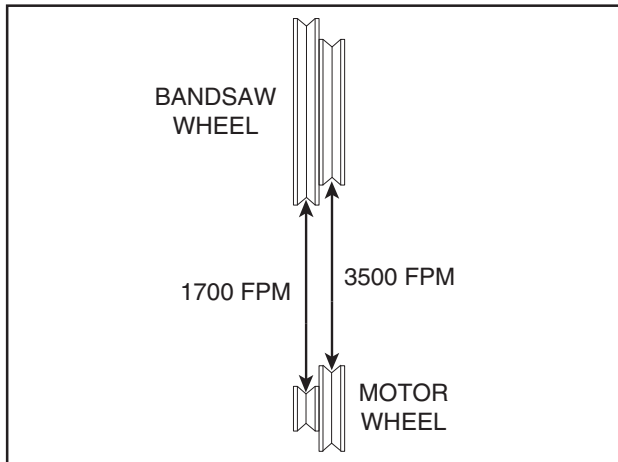

Figure 67. V-belt speeds.
3. Refer to **Figure 67** to locate the correct V-belt position for the desired blade speed.